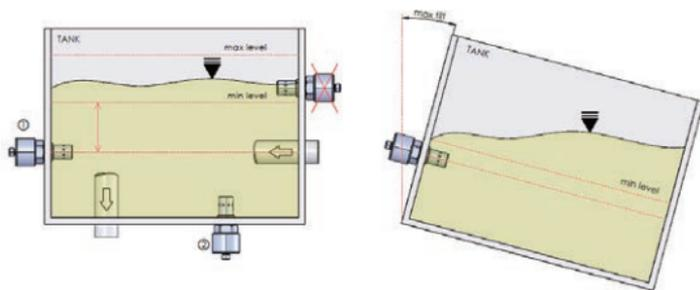

Fig. 3.2: Installation example of correct and incorrect mounting of the sensor in an oil tank
- When the oil is insufficiently mixed in the tank, free water may deposit at the bottom. The sensor at position 1 would therefore not detect the free water. In this special case, mounting position 2 is recommended (see Fig.3.2)